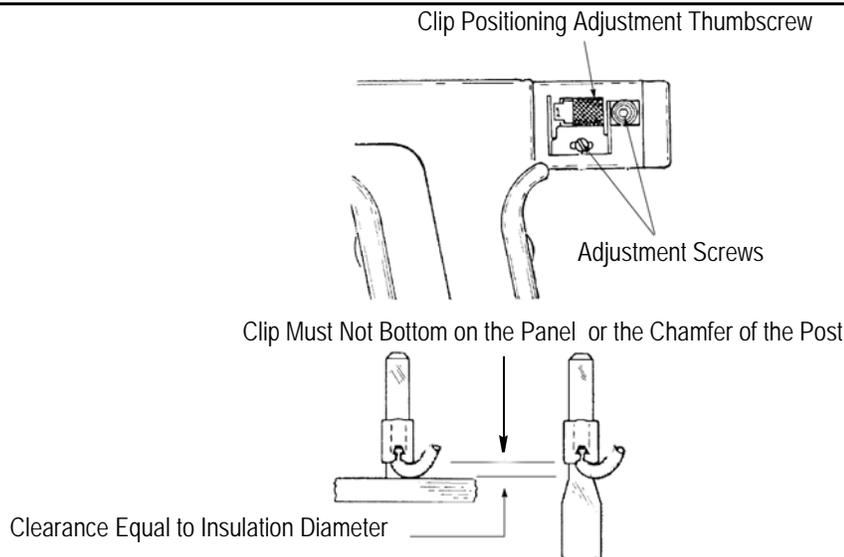

Figure 18
2. Loosen the adjustment screw behind the clip positioning adjustment thumbscrew. See Figure 18.
4. Tighten the adjustment screw behind the clip positioning adjustment thumbscrew. See Figure 18.
1. Loosen the clip positioning assembly adjustment screws. Refer to Figure 18.
3. Move the clip positioning assembly gradually, tighten the adjustment screws, and make test terminations to check the clip position. Refer to Figure 18.